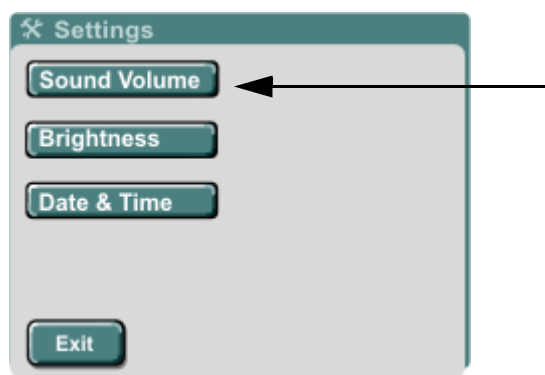

Figure 11: Settings Screen
2. On the **Settings** screen, press **Screen** to display the Settings Brightness screen. See Figure 11: "Settings Screen" on page 27.
2. On the **Settings** screen, press **Date & Time** to display the Settings Date & Time screen. See Figure 11: "Settings Screen" on page 27.